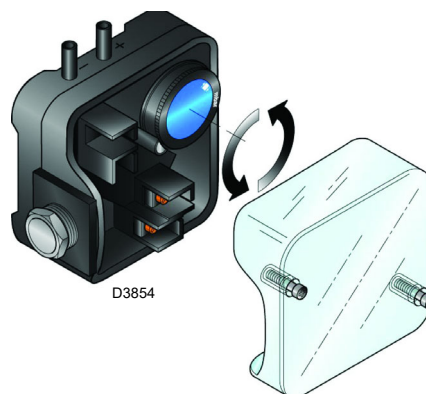

Fig. 26
- Adjust the air pressure switch to the start of the scale (Fig. 26 on page 26).
Adjust the air pressure switch after performing all other burner adjustments with the air pressure switch set to the start of the scale (Fig. 26).